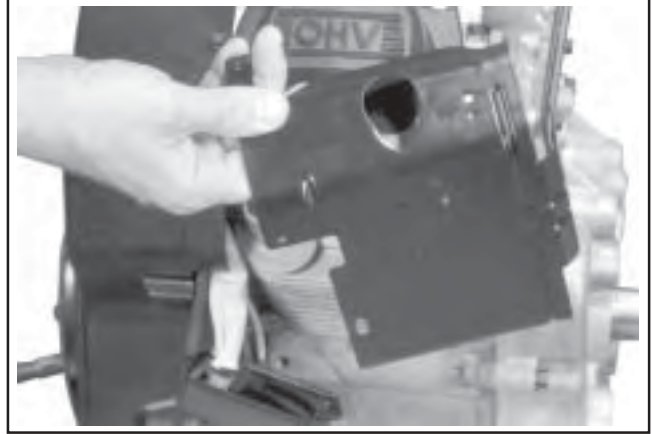

**Figure 9-33. Removing the Spark Advance Module (Applicable Models).**
3. The rectifier-regulator does not have to be detached from the blower housing. If the engine is equipped with SMART-SPARK™, the SAM module should be removed from the cylinder baffle or blower housing. See Figure 9-33. The module will hang loose as part of the wiring harness.